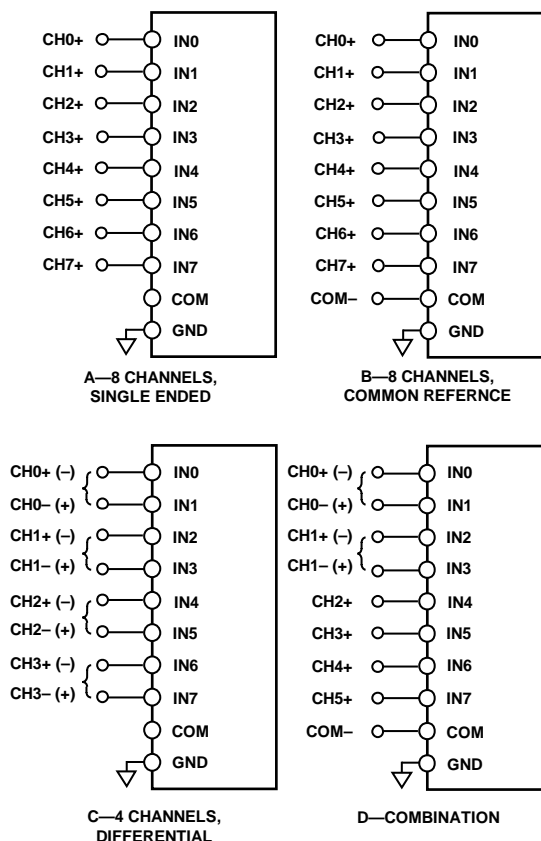

Figure 32. Multiplexed Analog Input Configurations
Figure 32 shows the different methods for configuring the analog inputs with the configuration register, CFG[12:10]. Refer to the Configuration Register, CFG section for more details.
- Figure 32 (A), single-ended referenced to system ground, CFG[12:10] = 1112. In this configuration, all inputs (IN[7:0]) have a range of GND to  $V_{REF}$ .
- Figure 32 (B), bipolar differential with a common reference point, COM =  $V_{REF}/2$ , CFG[12:10] = 0102. Unipolar differential with COM connected to a ground sense; CFG[12:10] = 1102. In this configuration, all inputs IN[7:0] have a range of GND to  $V_{REF}$ .
- Figure 32 (C), bipolar differential pairs with the negative input channel referenced to  $V_{REF}/2$ , CFG[12:10] = 00X2. Unipolar differential pairs with the negative input channel referenced to a ground sense, CFG[12:10] = 10X2. In these configurations, the positive input channels have the range of GND to  $V_{REF}$ . The negative input channels are a sense referred to  $V_{REF}/2$  for bipolar pairs, or GND for unipolar pairs. The positive channel is configured with CFG[9:7]. If CFG[9:7] is even, then IN0, IN2, IN4, and IN6 are used. If CFG[9:7] is odd, then IN1, IN3, IN5, and IN7 are used, as indicated by the channels with parentheses in Figure 32 (C). For example, for IN0/IN1 pairs with the positive channel on IN0, CFG[9:7] = 0002. For IN4/IN5 pairs with the positive channel on IN5, CFG[9:7] = 1012. Note that for the sequencer, detailed in the Channel Sequencer section, the positive channels are always IN0, IN2, IN4, and IN6.
- Figure 32 (D), inputs configured in any of the preceding combinations (showing that the AD7682/AD7689 can be configured dynamically).